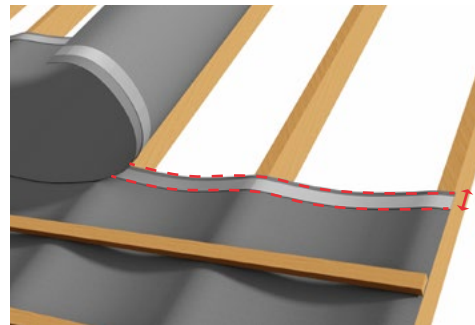
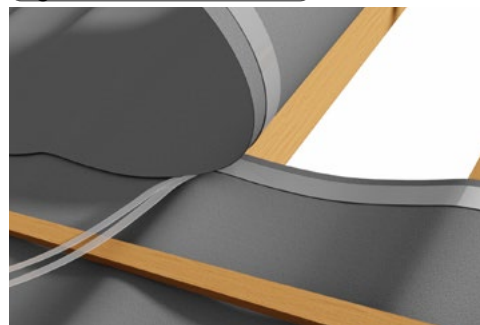

fig 3: Horizontal laps
fig 5: Double integral tape
4. Continue laying each course of Danelaw LR150TT working up the roof pitch in the same way. Ensure the integral tape on the lower and upper layer are aligned, peel back the release paper on both layers of the underlay gradually at the same time and press the two layers together to form an effective seal (fig. 5). Continue working along the roof in this way to seal the full length of the horizontal overlap (fig. 3). Tape to tape alignment is achieved using the 150mm overlap line marked on the membrane.